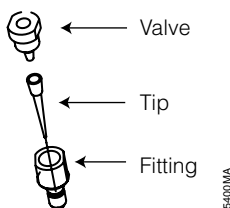

Figure 25. The injector tip assembly.
2. Twist the tip fitting counterclockwise to release the fitting from the tubing (Figure 25).